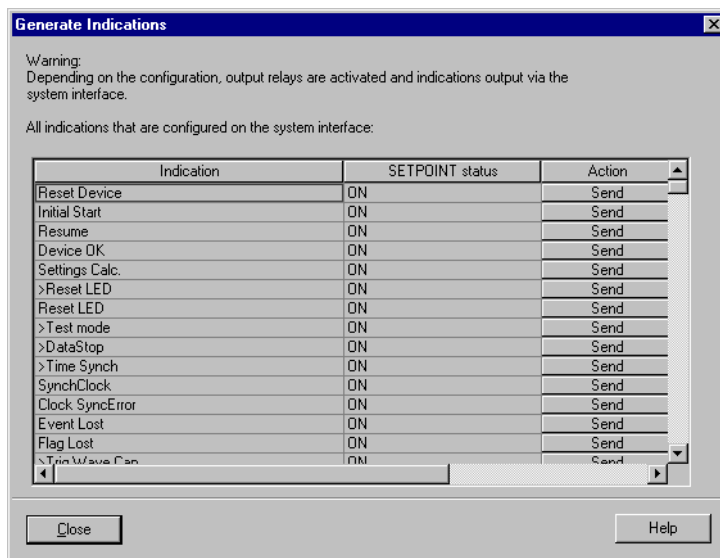

Figure 7-8 Dialog box Testing the system port – Example
- Double-click in the list **Generate Indications**. The dialog box **Generate Indications** is opened (see Figure 7-8, page 303).